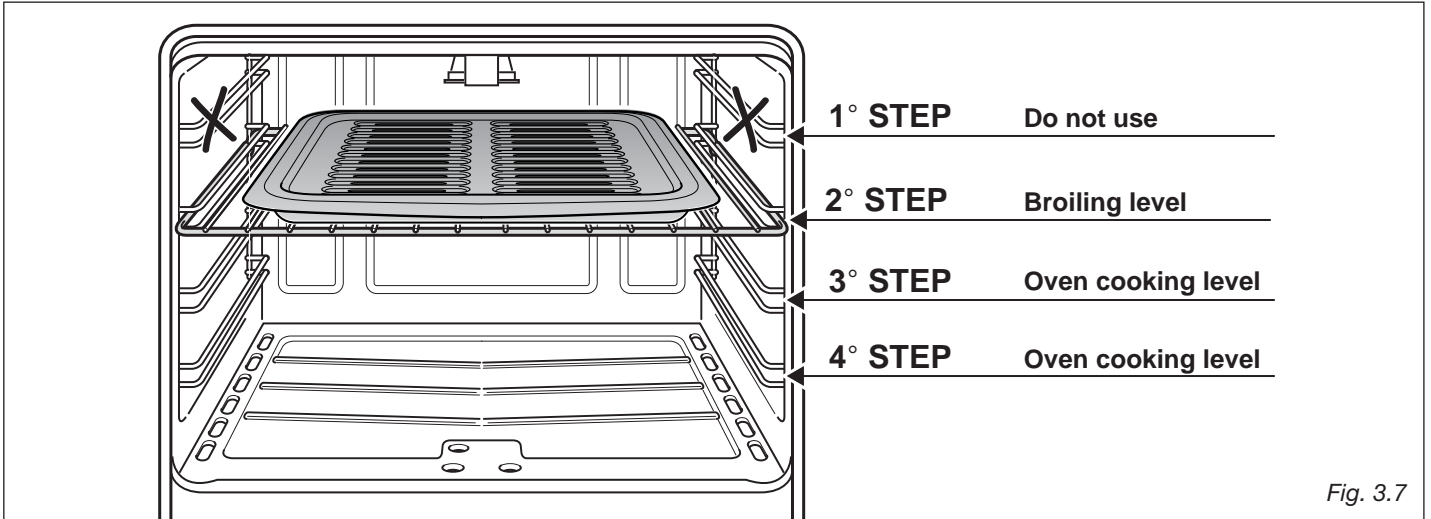
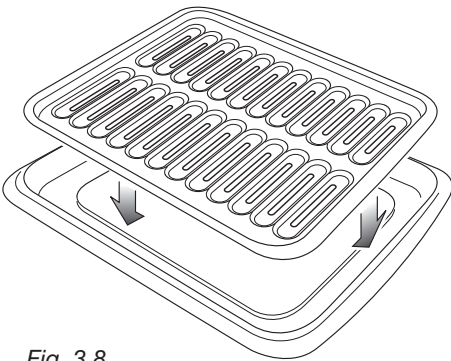

Fig. 3.7
Fig. 3.8
- Position the shelf on the second level from the top (fig. 3.7).
- Introduce the broiler pan (fig. 3.8) in the oven. The broiler pan should be placed above the shelf and it should be centered with the broil burner (fig. 3.7).